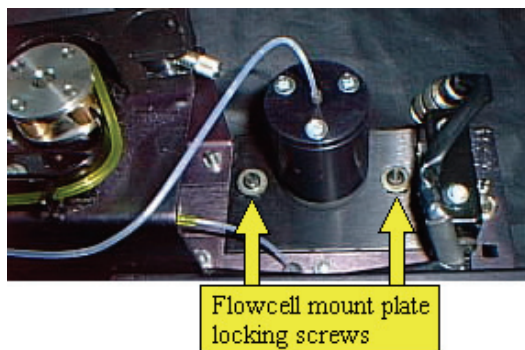

Figure 39 The mount plate
3. Loosen the two mount plate locking screws, as shown in Figure 39. This enables the mount plate to move freely during alignment.
12. Remove the accessory from the LS 55 sample area and tighten the locking screws shown in Figure 39.